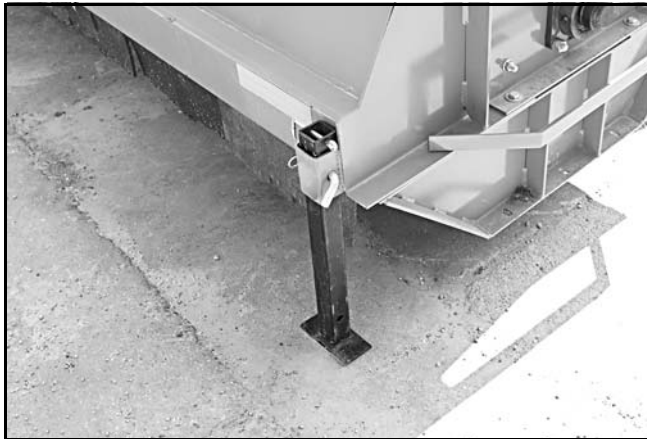

Figure 10. Parking Stand
2. Unpin front frame stands. Raise and pin in their upper position. See Figure 10.